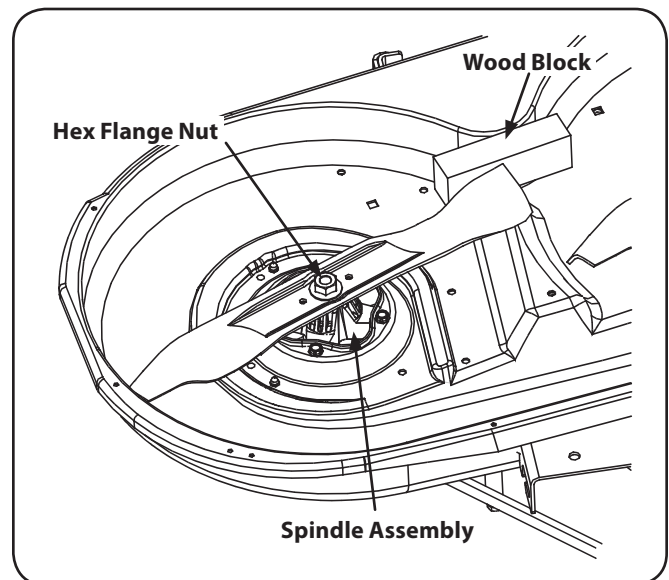

Figure 7-9
2. Use a $1\frac{5}{16}$ " wrench to hold the hex nut on top of the spindle assembly when loosening the hex nut securing the blade. A block of wood may be placed between the deck housing and the cutting edge of the blade to help in breaking loose the hex nut securing the blade. See Figure 7-9.